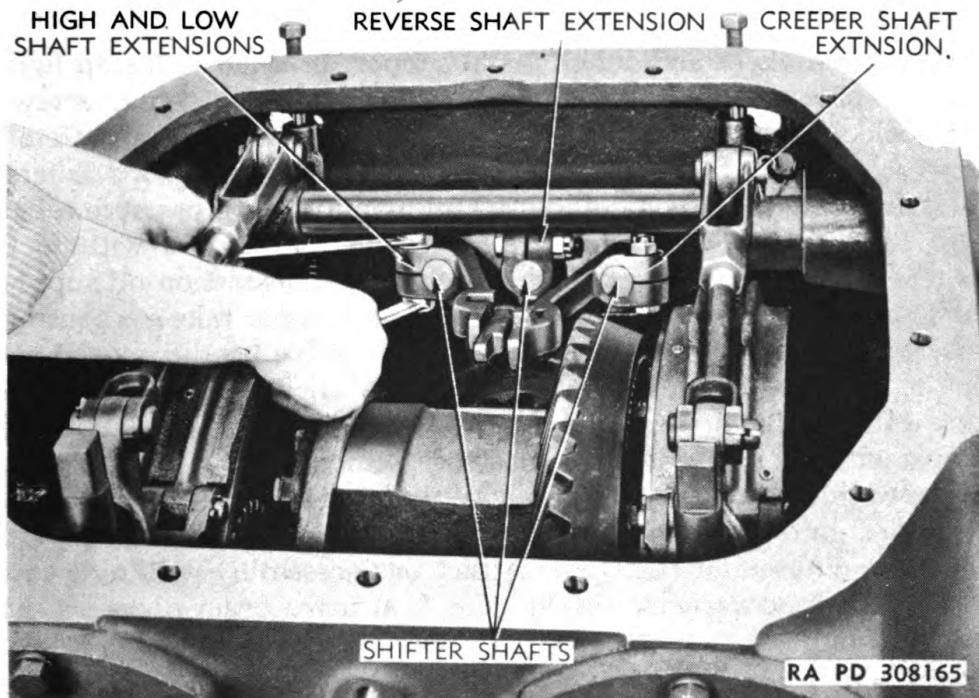

Figure 63—Installation of Shifter Shaft Extension
e. Install Shifter Shafts and Forks. Insert smooth end of creeper gear shifter shaft (longest of the three) through hole in rear of case closest to power take-off side of case, place lower end of creeper gear shifter fork in collar of creeper pinion, and slide shaft through fork and partly into front end of case. Turn shaft so flat side of shaft is down. Slip two shaft plungers with a plunger spring between them into lateral passage in cases at side of creeper gear shifter shaft. Figure 46 shows arrangement of shifter shafts, forks, and plungers. Holding pressure against projecting plunger (fig. 63), slide shaft further until plunger is felt to engage lock notch in side of shaft. Next insert reverse shifter shaft which has notches in both sides and tap through center hole at rear of case. Place lower end of reverse gear shifter fork in collar of creeper gear with offset at top of fork toward rear of case and slide shaft through fork and into front end of case
d. Install Shifter Shaft Extensions. Install shifter shaft extensions on front ends of transmission shifter shafts as shown in figure 63. Position extensions so they are flush with ends of shaft, then tighten clamp bolts and install cotter pins in bolts. Adjust shifter shafts as explained in paragraph 20 f. With all gears in neutral position (fig. 12), the notches in extensions on reverse (center) and creeper (left) shifter shafts should now be even. Adjust creeper shaft exten-